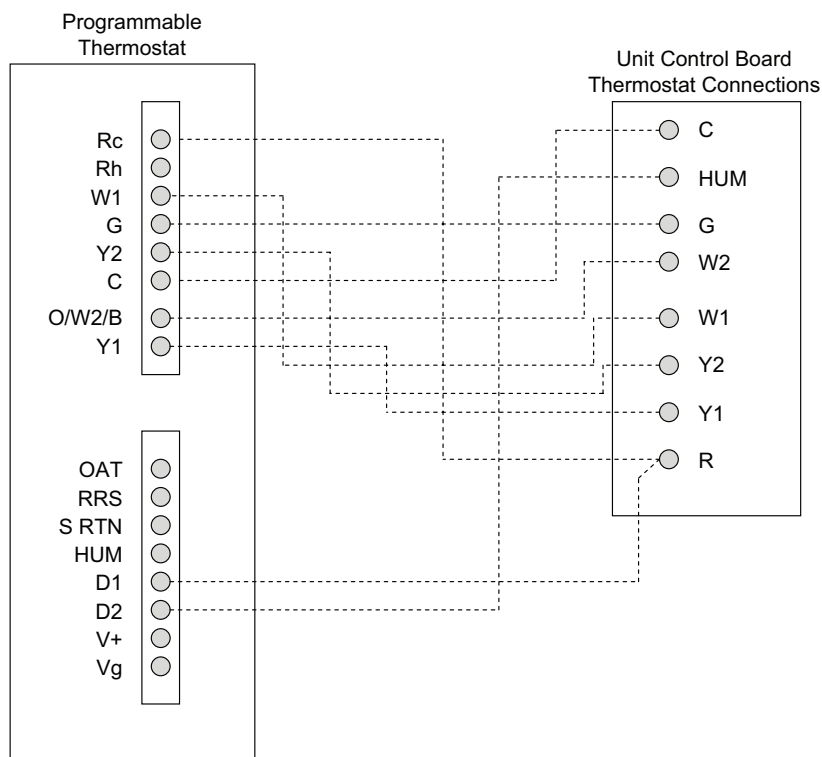

Fig. 35 — Typical Rooftop Unit with Perfect Humidity™ Dehumidification System and Programmable Thermostat
3. The thermidistat has dry contacts at terminals D1 and D2 for dehumidification operation (see Fig. 35). Connect D1 to the R terminal on the UCB. Connect D2 to the HUM terminal on the UCB. Refer to the installation instructions included with the field-installed thermidistat device for more information.